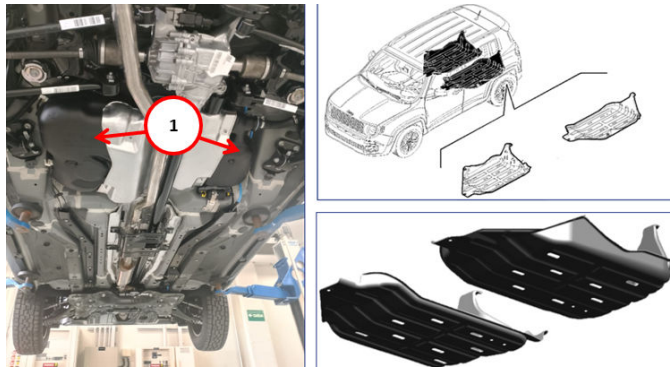

Fig. 5
6. Position the fuel tank protection cover on the left side and hand tighten the three screws (two on the floor and one on the support bracket) Fig. 5.
7. Position the fuel tank protection cover on the left side and hand tighten the three screws on the floor Fig. 5.